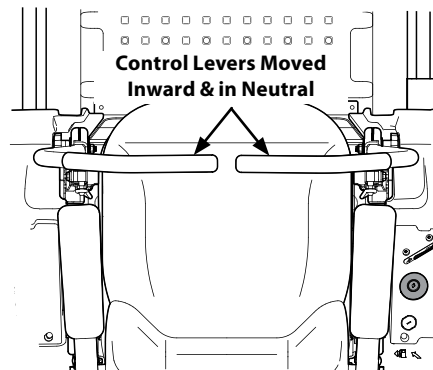

Figure 3-2
- Move the RH and LH drive control levers inward in the neutral position. Refer to Figure 3-2.